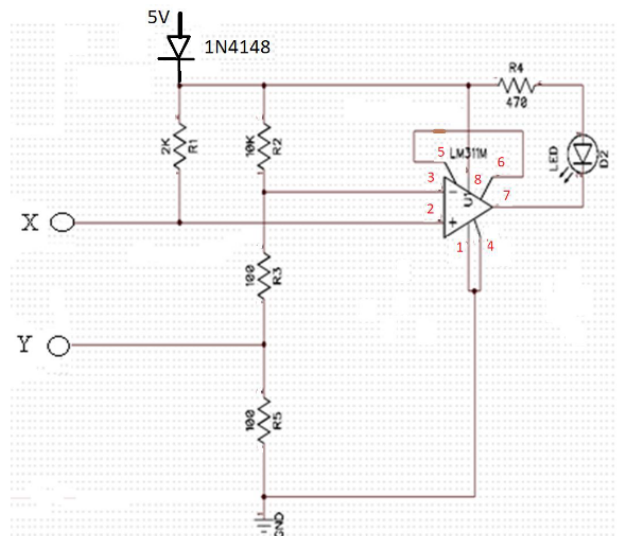
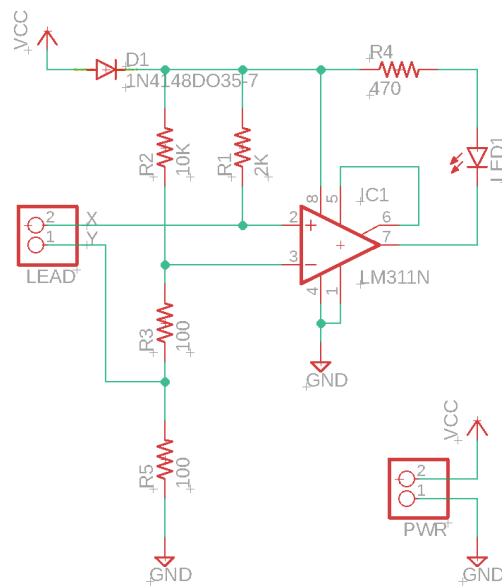

Figure 1: The provided schematic.
Figure 2: The created schematic.
a) A schematic was created in EAGLE (Figure 2) according to the provided schematic (Figure 1).